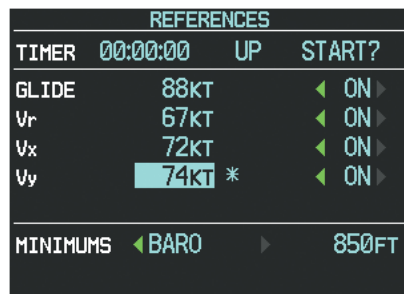

Figure 2-5 Timer/References Window
- 3) Use the **FMS** Knob to enter the desired value. When a speed has been changed from a default value, an asterisk appears next to the speed (Figure 2-5).